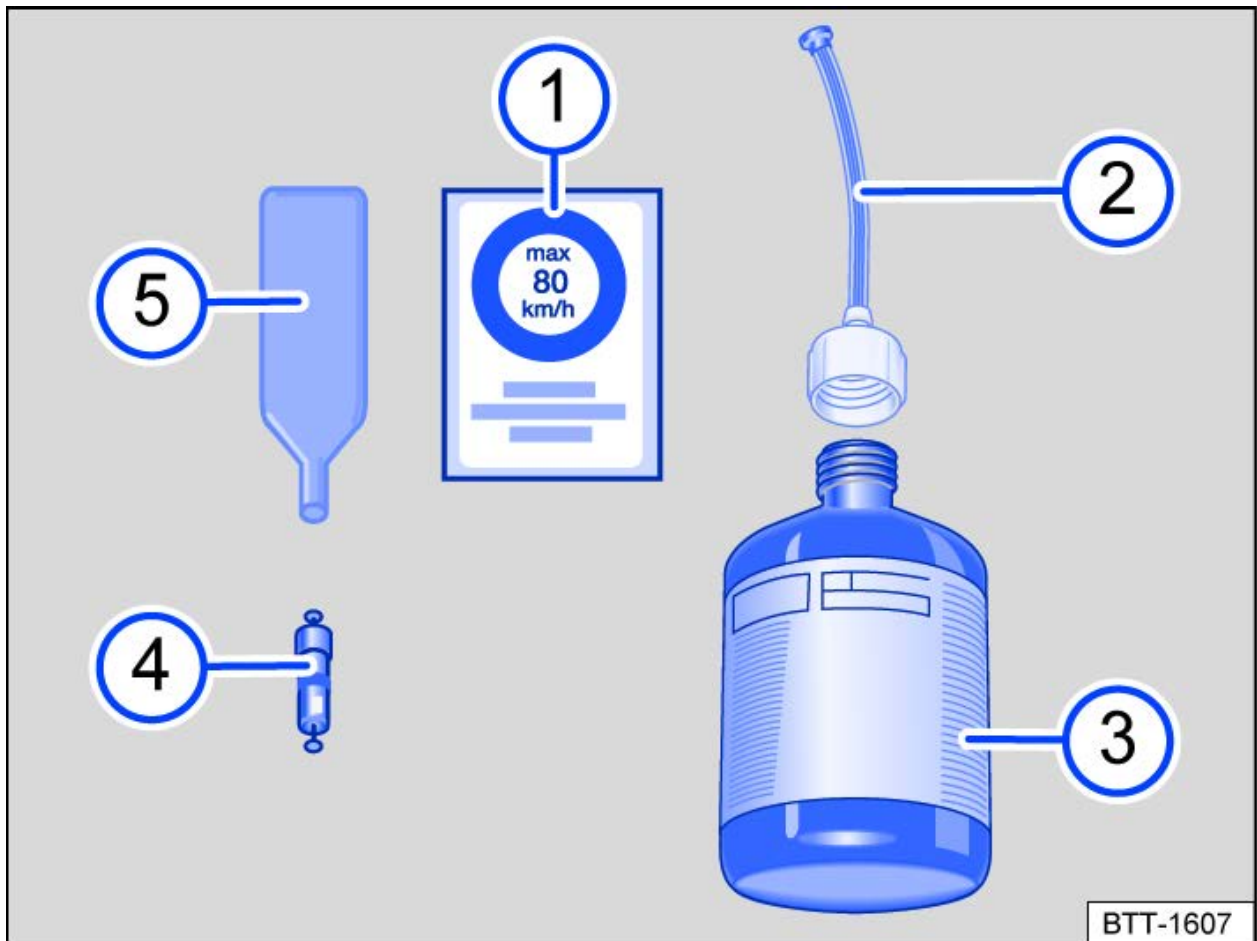

Fig. 1 General example: components of the tire mobility set.
The tire mobility set consists of the following components → *fig. 1* :
- ① Label with the speed specification "max. 80 km/h" or "max. 50 mph"
- ② Filler hose with plug
- ③ Tire filler bottle
- ④ Replacement valve insert
- ⑤ Valve insert tool
The **valve insert tool** → *fig. 1* ⑤ has a slot on the bottom end where the valve insert will fit. Only in this way can the valve insert be removed from the tire valve and reinstalled. This also applies to the replacement valve insert ④.